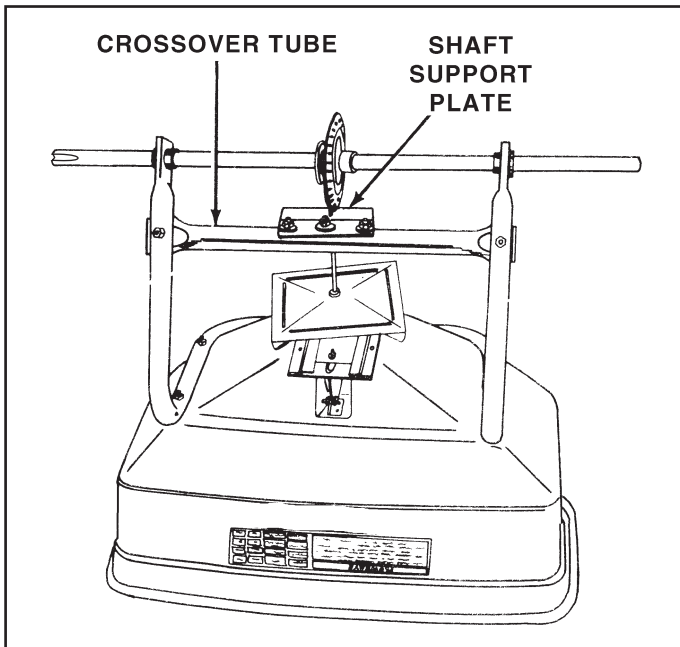

FIGURE 1
1. Turn the spreader upside down as shown in figure 1, so that it rests on the hopper.